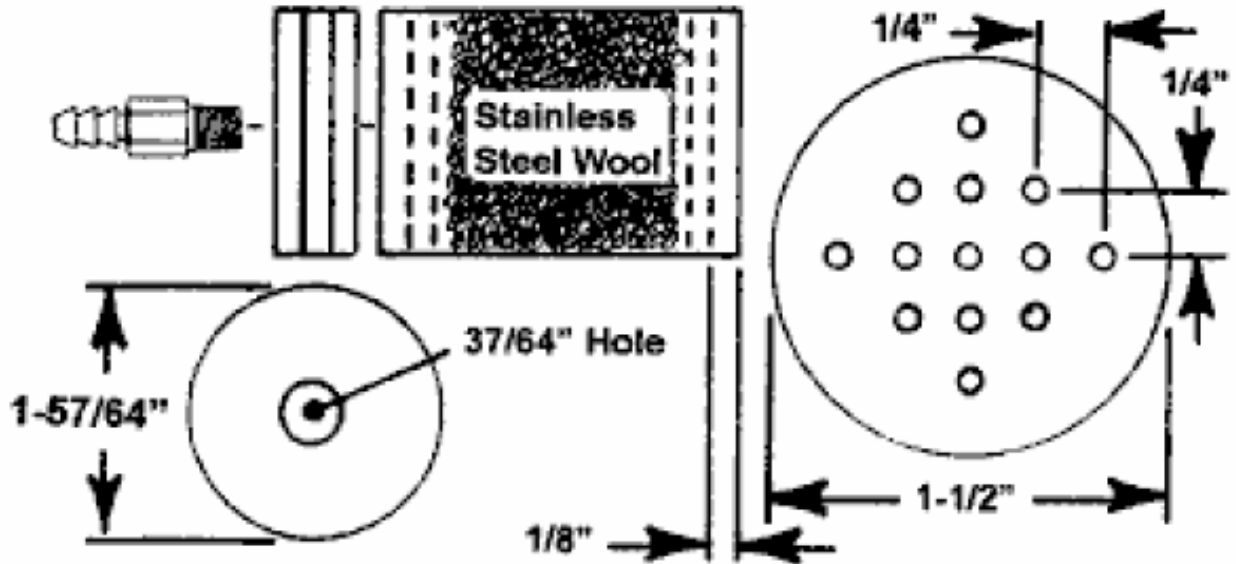

Figure 17: Flame Arrestor Details
5. Referring to the following Figure 17, drill a total of thirteen (13) 1/8" holes through each of the two 1-1/2" disks at the indicated locations.
6. Apply primer to the edge of one of the 1-1/2" disks and about 3/8" into either end of the 3" pipe bore. Apply cement to the primed surfaces and slide the disk 1/4" into the pipe bore, creating a 1/8" gap between the disk and the pipe end as shown in Figure 17. Form a small fillet of cement around the outer junction of the disk and pipe bore. Stand the pipe on end for 5 or 10 minutes (until the cement won't run) to prevent plugging the holes with cement. If any hole is plugged, use a short length of stainless steel rod to open it back up. Allow the cement to air dry for about an hour before going to step 7.